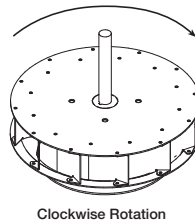

Figure 9
5. Check wheel rotation (viewing from the shaft side) by momentarily energizing the unit. Rotation should be clockwise as shown in Figure 9 and correspond to the rotation decal on the unit.
3. Start the fan and shut it off immediately to check rotation of the wheel with directional arrow in the motor compartment. See Figure 9 on page 7.